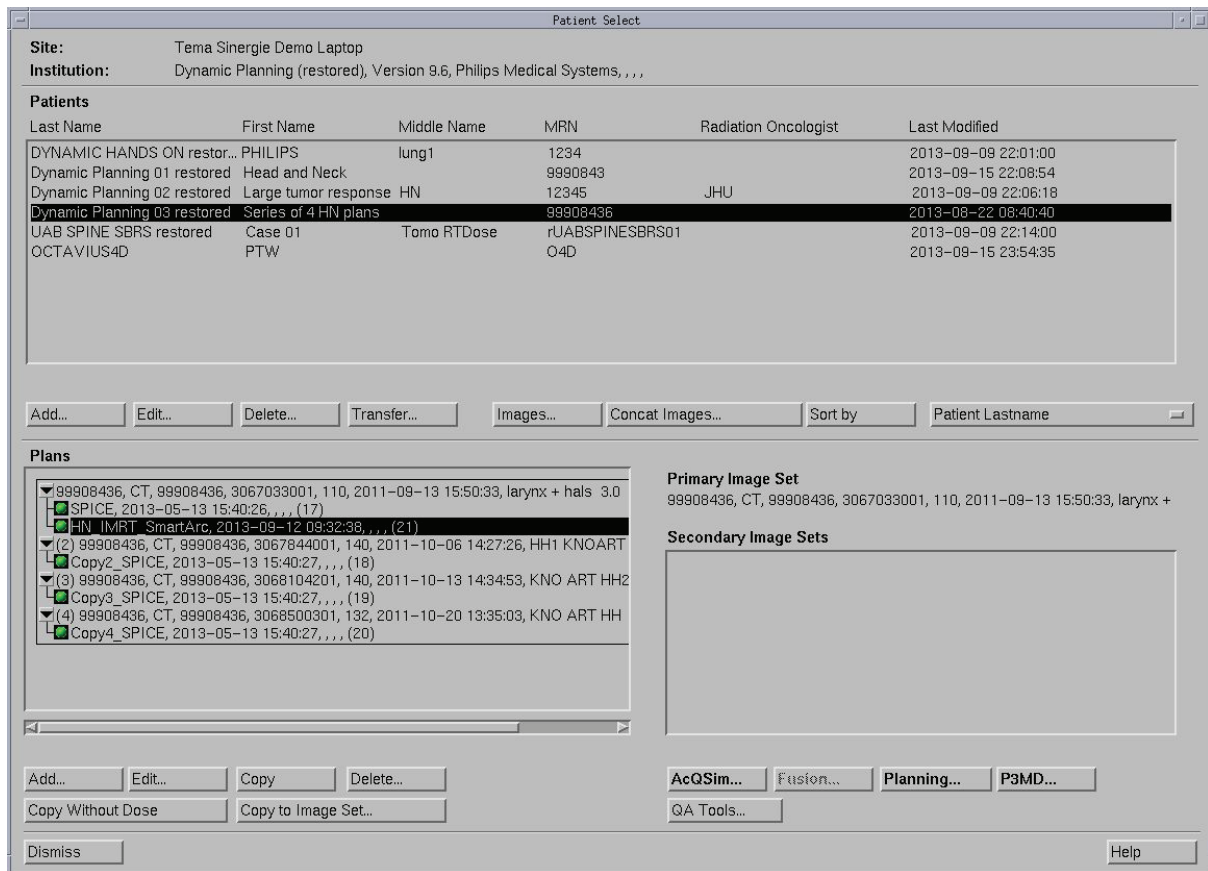

Fig. 4.1 Plan to be verified selection.
1. In the **Patient Select** window, select a patient and the plan to copy (Figure 4.1).